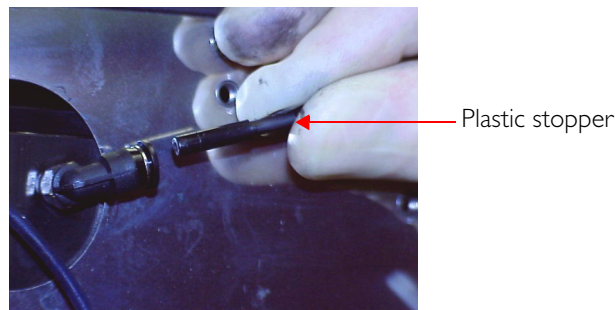

Figure 53. **Inserting the Stopper**
6. Disconnect the air tube from the appropriate secondary ink tank (in accordance with the *black* print head to be changed) and in place of this, insert the black plastic stopper (to create a vacuum inside the secondary tank) - see Figure 53.